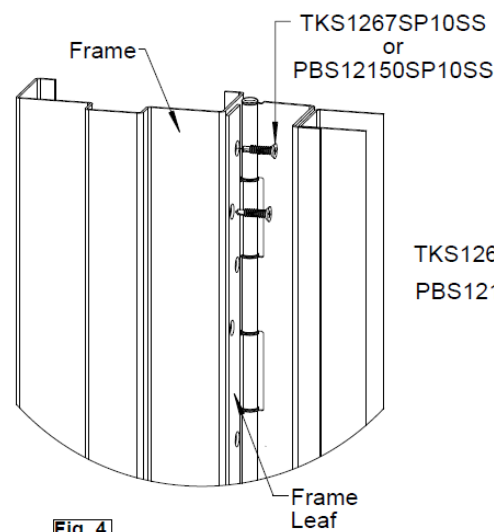

Fig. 4
2. Attaching hinge to frame (Fig. 4)